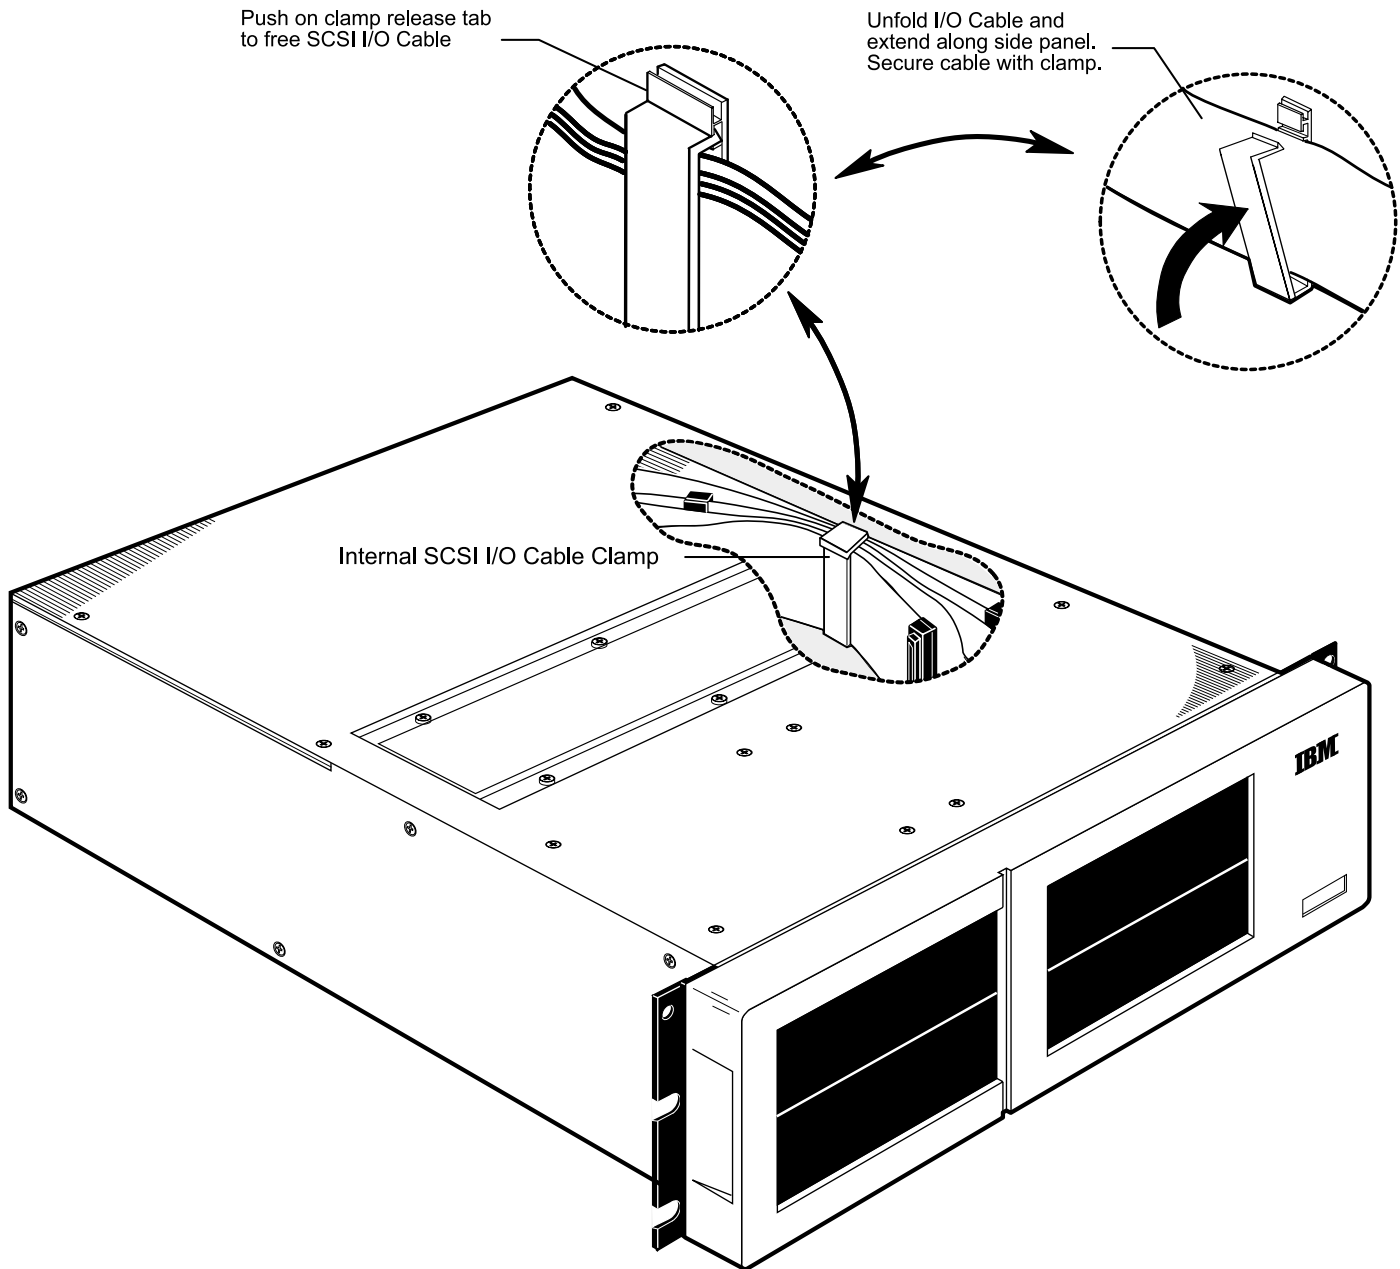

Figure 12: Internal SCSI I/O Cable Clamp
2. Fasten the drive to the chassis with the two (2) M3.5 screws provided (Figure 12). Do not tighten screws at this point. Before tightening the screws, verify that the drive(s) are flush with the front bezel. Adjust if necessary, and tighten screws.